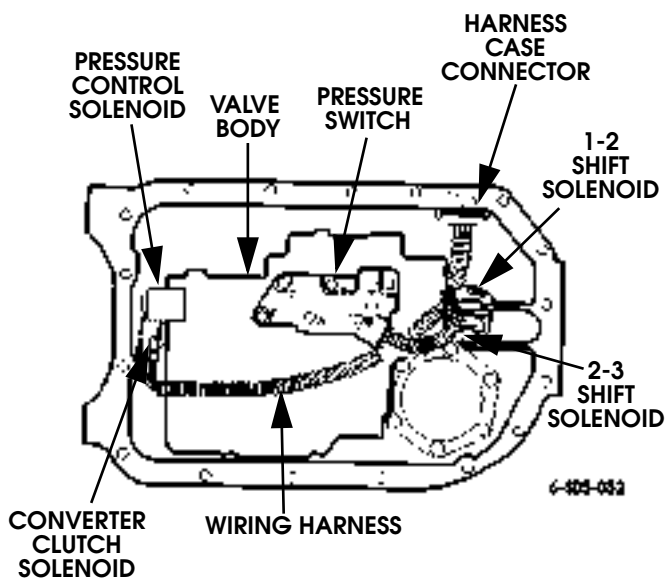
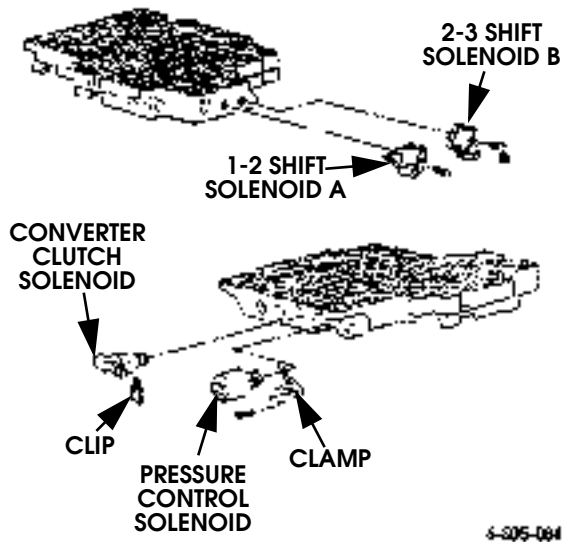

Figure 5-37: Valve Body Switch and Solenoid Locations
Figure 5-39: Solenoid Identification
The following electrical components can be replaced once the oil pan and/or valve body are removed from the transmission (Figure 5-37):
7. Remove necessary solenoid from valve body. Refer to Figure 5-37 or Figure 5-39 for solenoid locations.